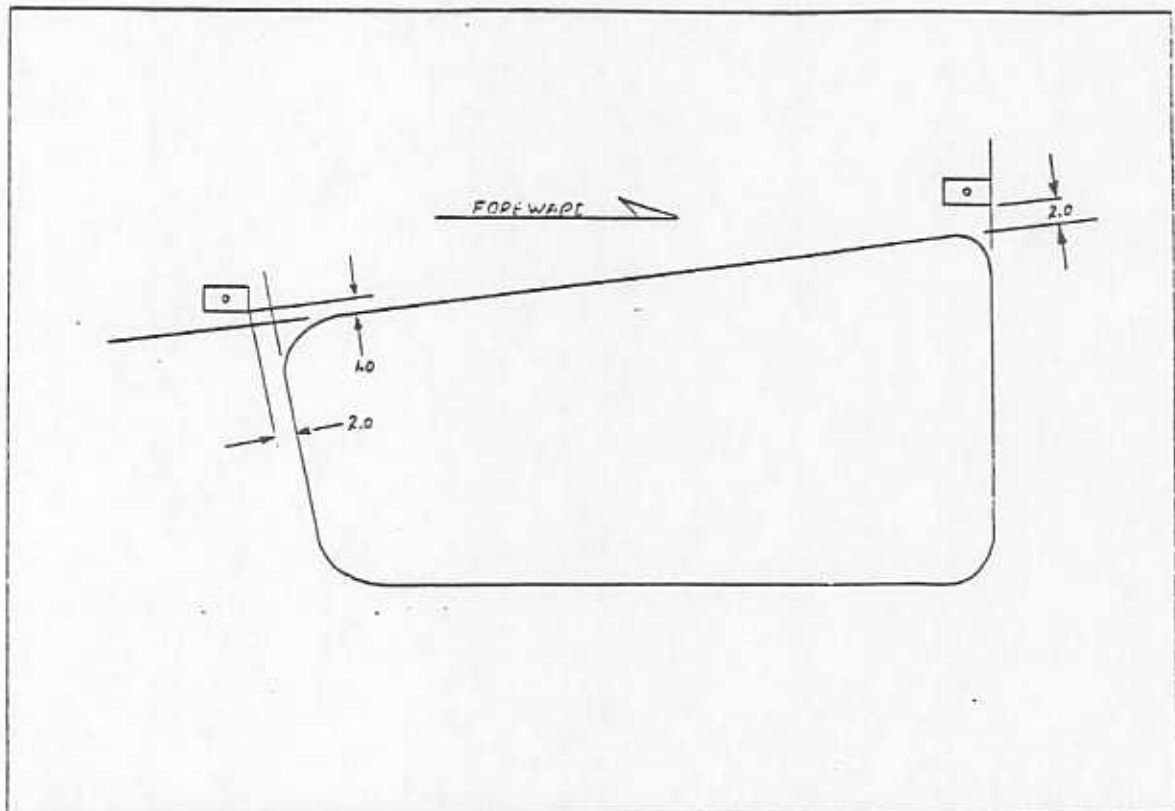

FIG 7.070-3 SHOULDER HARNESS HARDPOINT LOCATIONS.
The front seat shoulder harness hardpoints are located by extending the lines of the rear window forward vertical edge and the upper horizontal edge. Place the lower forward corner of the single hole hardpoint two (2) inches above the extended lines intersection. Make sure long axes of the hardpoint is horizontal with the fuselage and draw a line around the hardpoint (Fig 7.070-3).
The rear seat shoulder harness hard points are located in the same manner except using the aft vertical line of the window. Place the forward corner of the single hole hardpoint one (1) inch above and two (2) inches aft of the extended line intersection (Fig 7.070-3).